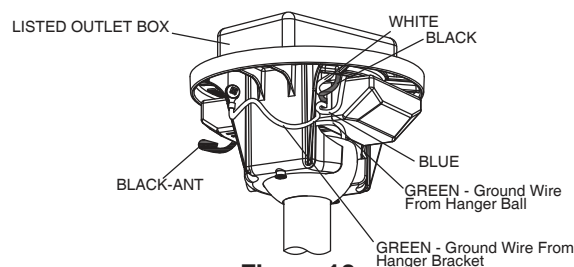

Figure 18
5. After connections have been made, turn leads upward and carefully push leads into the outlet box, with the white and green leads to one side of the box and the black leads to wards the other side (Figure 18).